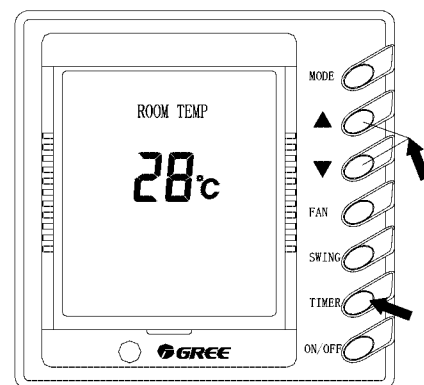

Fig2
## 1) On/Off switch (Fig.2)
**NOTE:** Fig.2 shows the closedown status after power on. When the communication is normal, both at the running and stopping status will display the environment temp. Here, there is no "graticule line" on the LCD of Fig.3, it shows the unit is closedown..